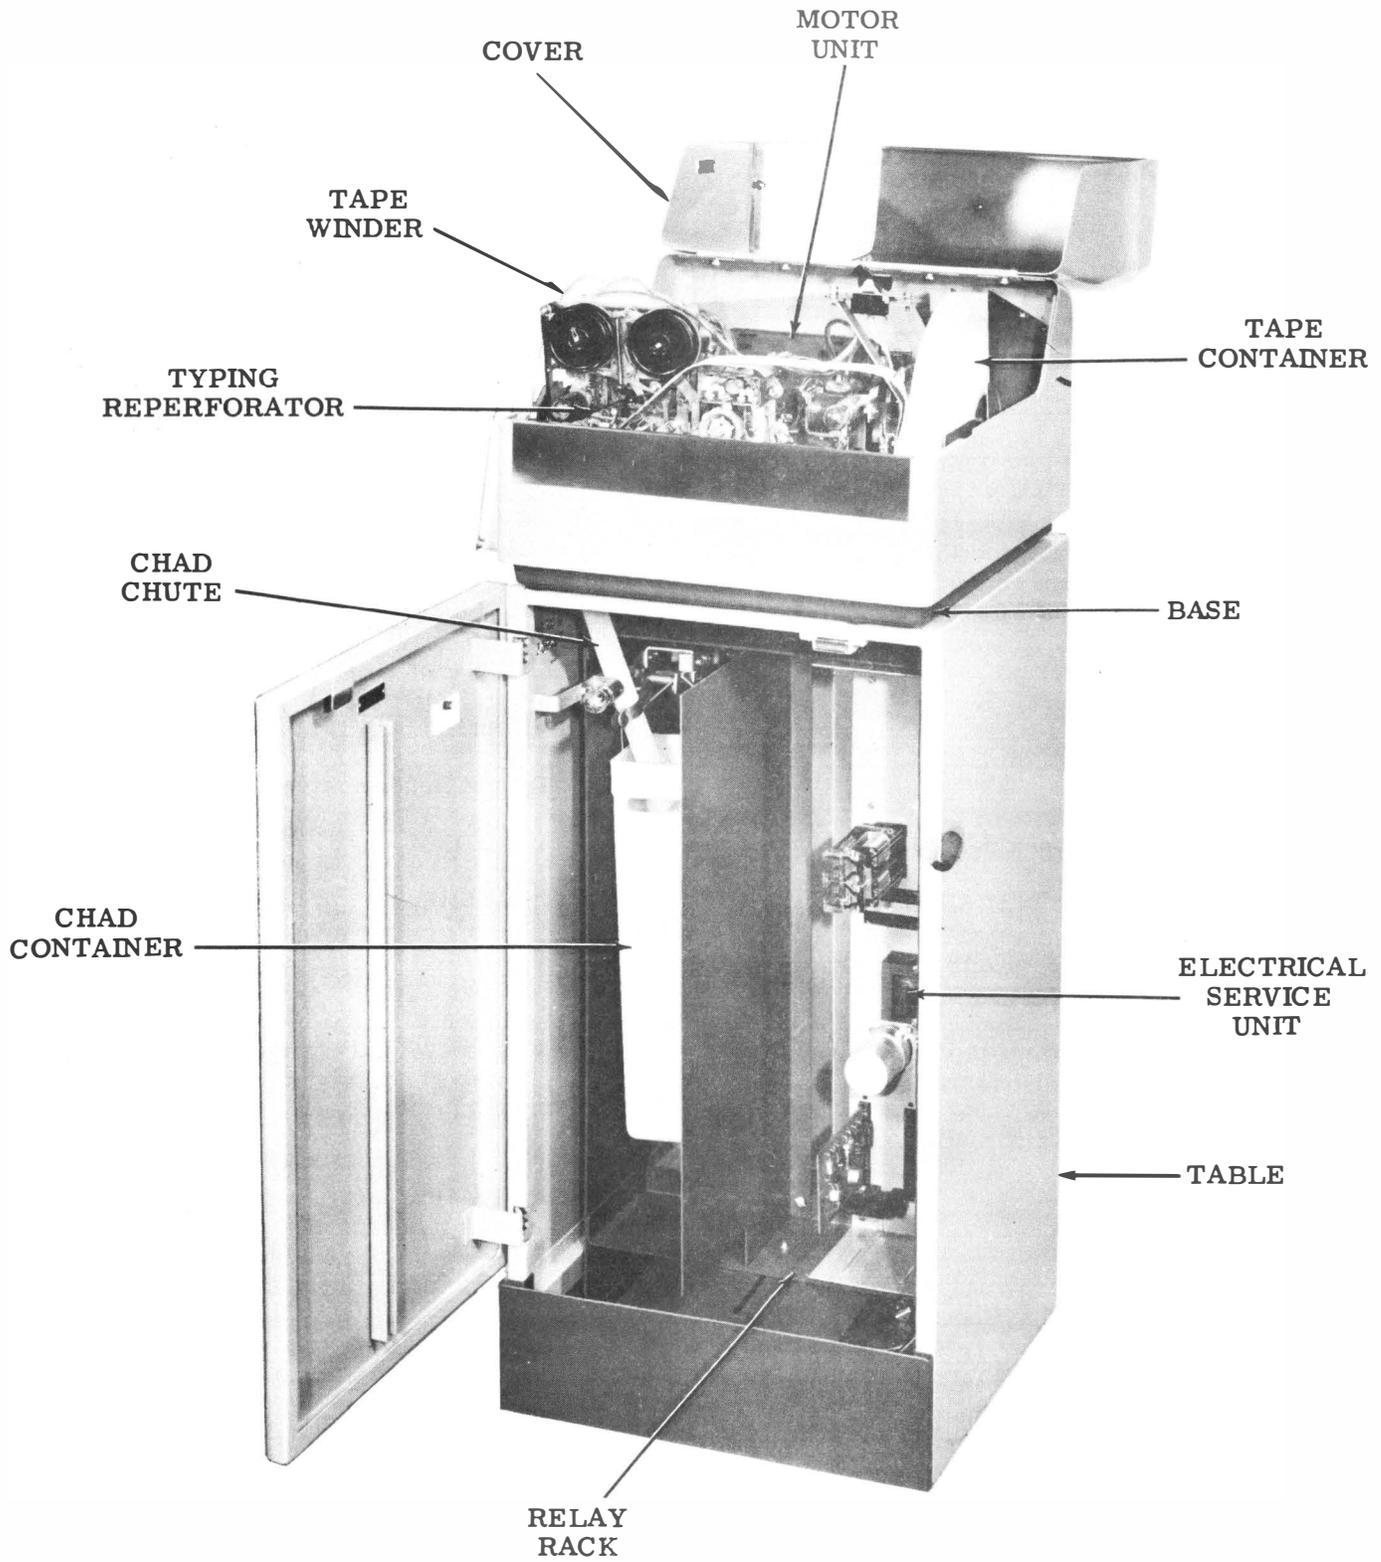

Figure 1 - Typical 35 ROTR Set
ASSEMBLING THE COMPONENTS (Figures 1, 2, and 3)
3.01 Mount the electrical service unit to the far right side of the relay rack with the hardware furnished with the unit (Figures 1 and 2).